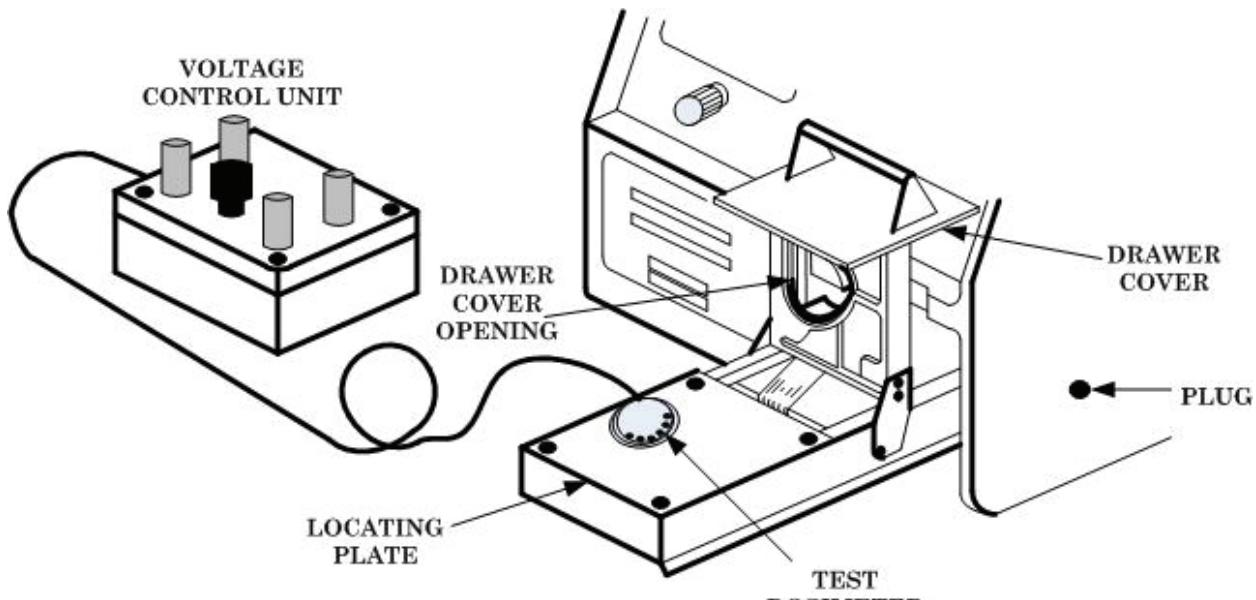
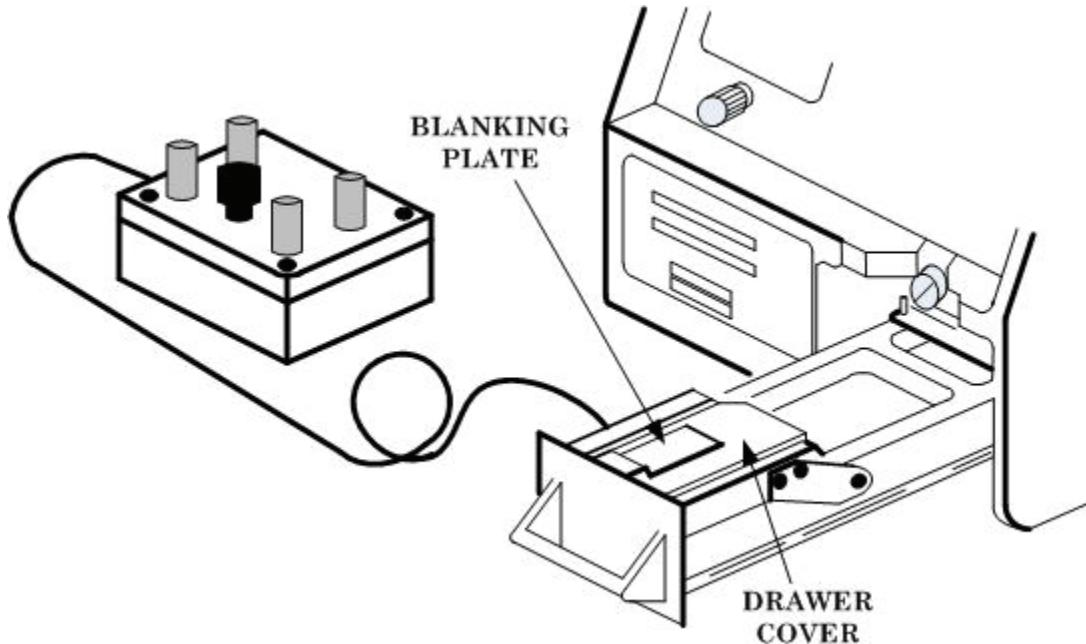

Figure 2. Test dosimeter installation.
Figure 3. Blanking plate installation.
Ensure that drawer does not contain any dosimeter or other objects on dosimeter LOCATING PLATE (fig. 2).
- o. Remove PLUG (fig. 2) on right side of TI case, exposing adjusting screw on gamma internal standard.
- (5) Press and release **DEPRESS FOR READING** switch 5 times, recording digital panel meter indications each time.
- (6) If all recorded readings are not between 790 and 810 cGy, adjust **GAMMA CAL 800** control to 800 ± 1 cGy.
- (7) Set selector switch to **READ**.
- (8) Connect dc power supply No. 2 to VOLTAGE CONTROL UNIT (fig. 2) (part of maintenance kit) 10 V dc (+) and (-) terminals.
- (9) Disconnect multimeter from power supply No. 1 and connect to voltage control unit 10 V dc (+) and (-) terminals.
- (10) Adjust dc power supply No. 2 until multimeter indicates between 10 ± 1 V dc.
- (11) Disconnect multimeter from 10 V dc (+) and (-) terminals and connect to voltage control unit DVM (+) and (-) terminals.
- (12) Open drawer assembly and DRAWER COVER (fig. 3).
- (13) Position voltage control unit next to TI.
- (14) Install TEST DOSIMETER (fig. 2) (part of voltage control unit) on dosimeter locating plate.
(15) Close drawer cover.
(16) Install BLANKING PLATE (fig. 3) (part of maintenance kit), so that rectangular window in cover plate is sealed.
(1) Open drawer and remove blanking plate and reference dosimeter.
(2) Install TEST DOSIMETER (fig. 2) and BLANKING PLATE (fig. 3) into drawer assembly. Close drawer.
(3) Turn **GAMMA CAL 800** adjust fully ccw.
(4) Adjust **SET VOLTS** control (voltage control unit) until multimeter indicates 1.577 ± 0.001 V dc.
(5) Press and release **DEPRESS FOR READING** switch.
(6) Adjust **NEUTRON CAL 0** until digital panel meter indicates 5 ± 1 cGy.
(7) Using thermometer (part of maintenance kit), measure temperature of TI front panel between **DEPRESS FOR READING** switch and selector switch.
(8) Record front panel temperature (temperature must be between 59 and 86 °F (15 and 30 °C).
(9) Note voltage that corresponds to front panel temperature in (8) above, using table 3 below.
(10) Adjust **SET VOLTS** knob on voltage control unit until multimeter indicates within ± 0.001 V of voltage noted in (9) above.